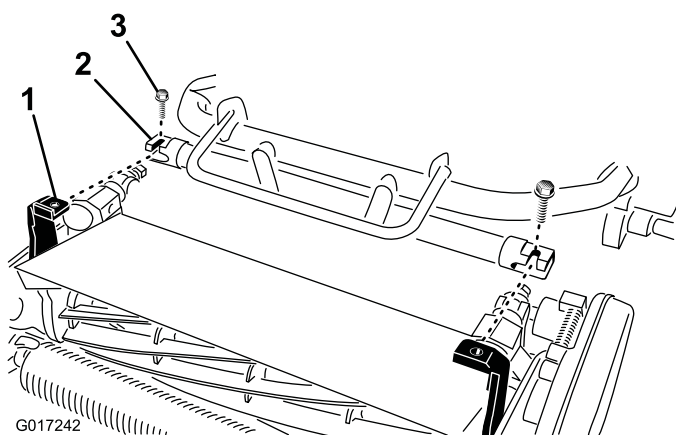

Figure 6
4. Maneuver the traction unit frame (Figure 6) forward until it engages the cutting unit pivot arms.
5. Secure the traction unit frame to the cutting unit pivot arms with 2 bolts (3/8 x 3/4 inch) (Figure 6).
6. Slide the telescoping coupler onto the cutting unit hex shaft until detent in the hex shaft is felt. This will prevent the coupler from moving on the hex shaft (Figure 6).